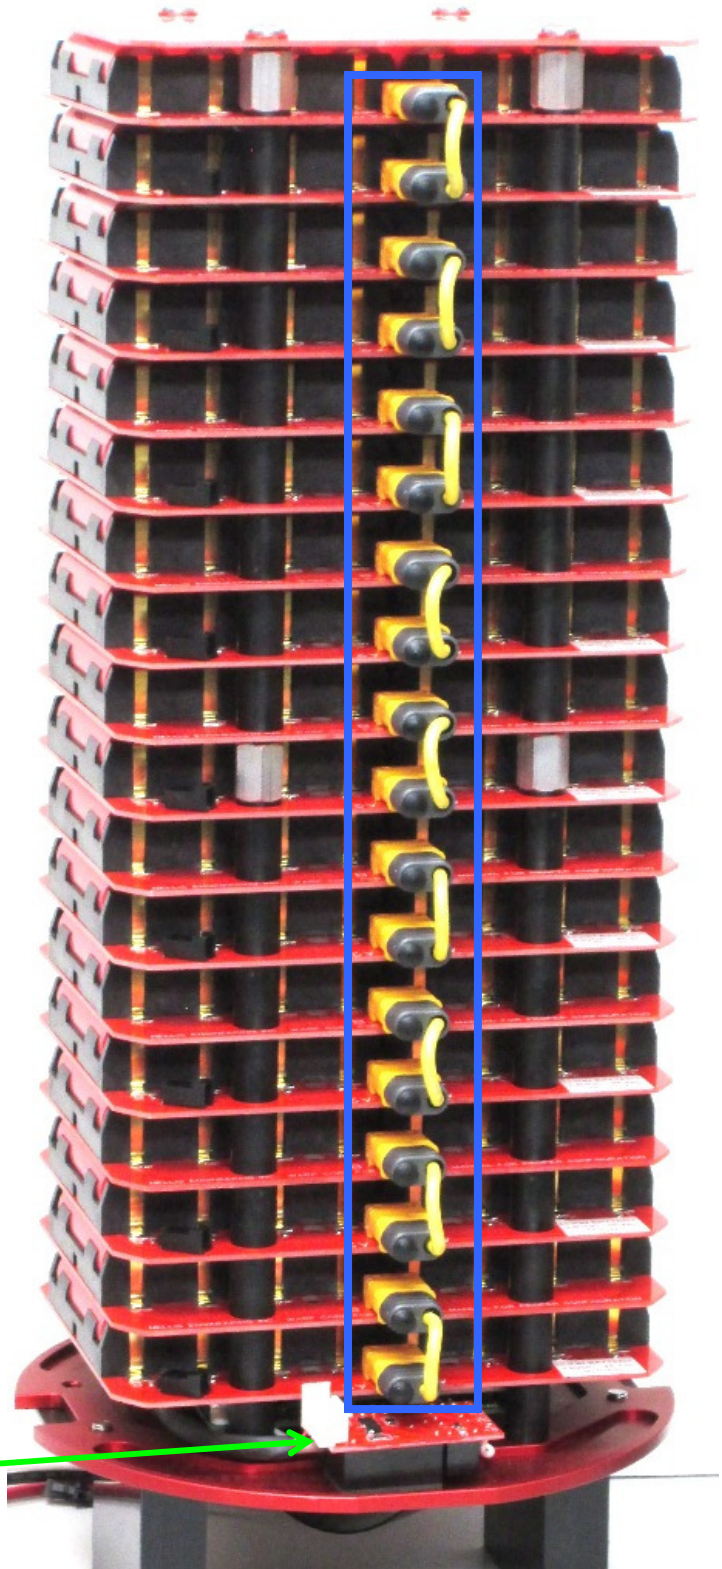

Figure 12
2. Install 9 jumpers between the battery layers (Figure 12 - blue outline), starting on the very bottom layer, just above the Charge Control Circuit Board and working up.
4. Remove the 17 yellow jumpers from the both sides of the battery layers (Figures 12 and 13 – blue outline)